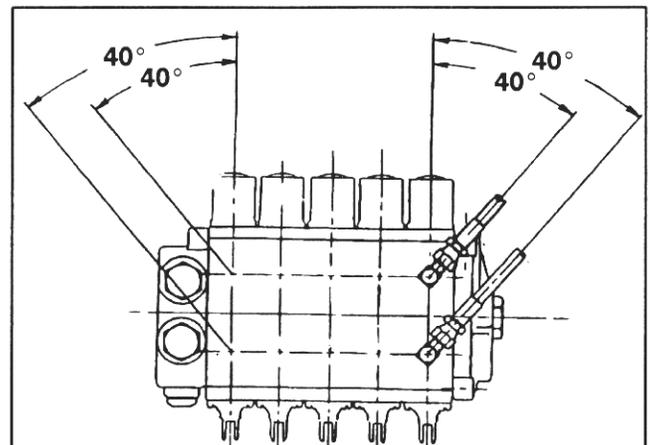

Figure 3
7. Lubricate O-ring seals, with oil, on new 90° fittings and install fittings in valve sections, positioning as shown in figure 3.